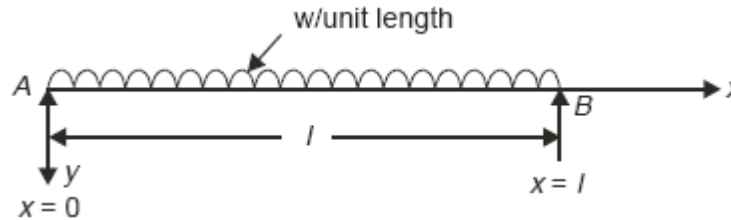

Figure P4.5
5. Using Ragleigh–Ritz method determine the expressions for deflection and bending moments in a simply supported beam subjected to uniformly distributed load over entire span as shown in **Figure P4.5**. Find the deflection and moment at midspan and compare with exact solutions.